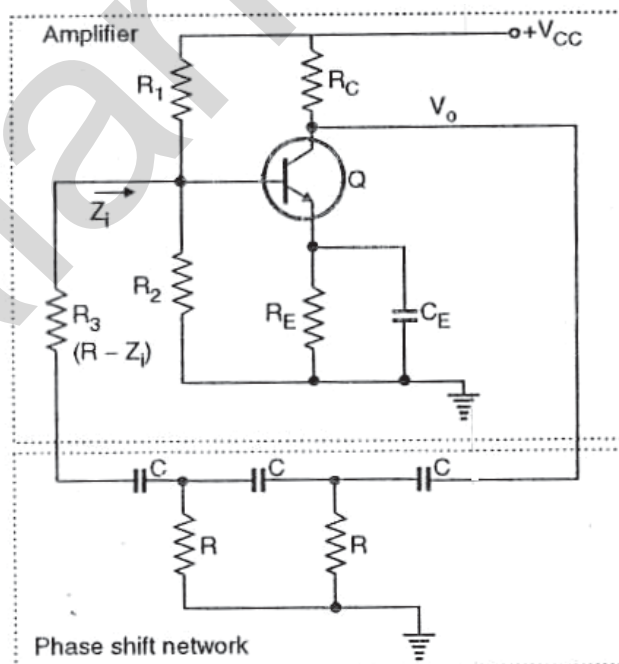

Fig. 1 : RC phase shift oscillator using transistor
- A typical RC phase shift oscillator using transistor as an active device is shown in figure 1.
- As shown in figure 1 the output V_o of the single stage CE amplifier has been connected as an input to the RC phase shifting network.
- Note that the RC feedback network of figure 1 is slightly different from the one we have discussed in section 6. The resistance R_3 of Figure 1 is selected in such a way that,